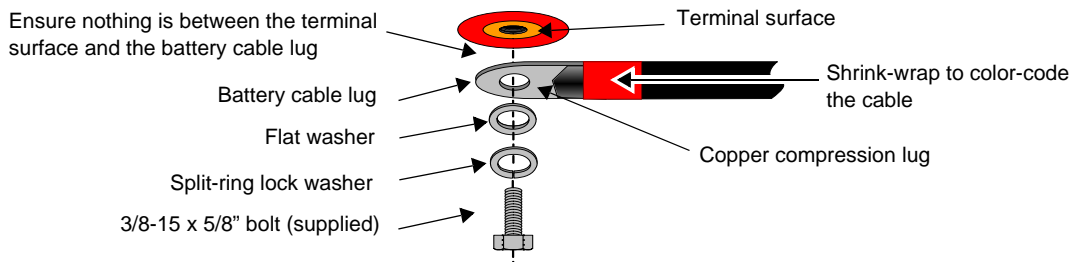

Figure 2-10 Battery Cable Connection
3. Connect one connector on the POSITIVE (+) cable to the POSITIVE DC terminal on the inverter/charger. Be careful to observe proper polarity. Figure 2-10 shows the proper stacking order of hardware. Use a wrench to tighten the bolt to the required torque.
5. Connect the NEGATIVE (–) battery cable to the NEGATIVE (–) DC terminal on the inverter/charger. Be careful to observe proper polarity. Figure 2-10 shows the proper stacking order of hardware. Use a wrench to tighten the bolt to the required torque.